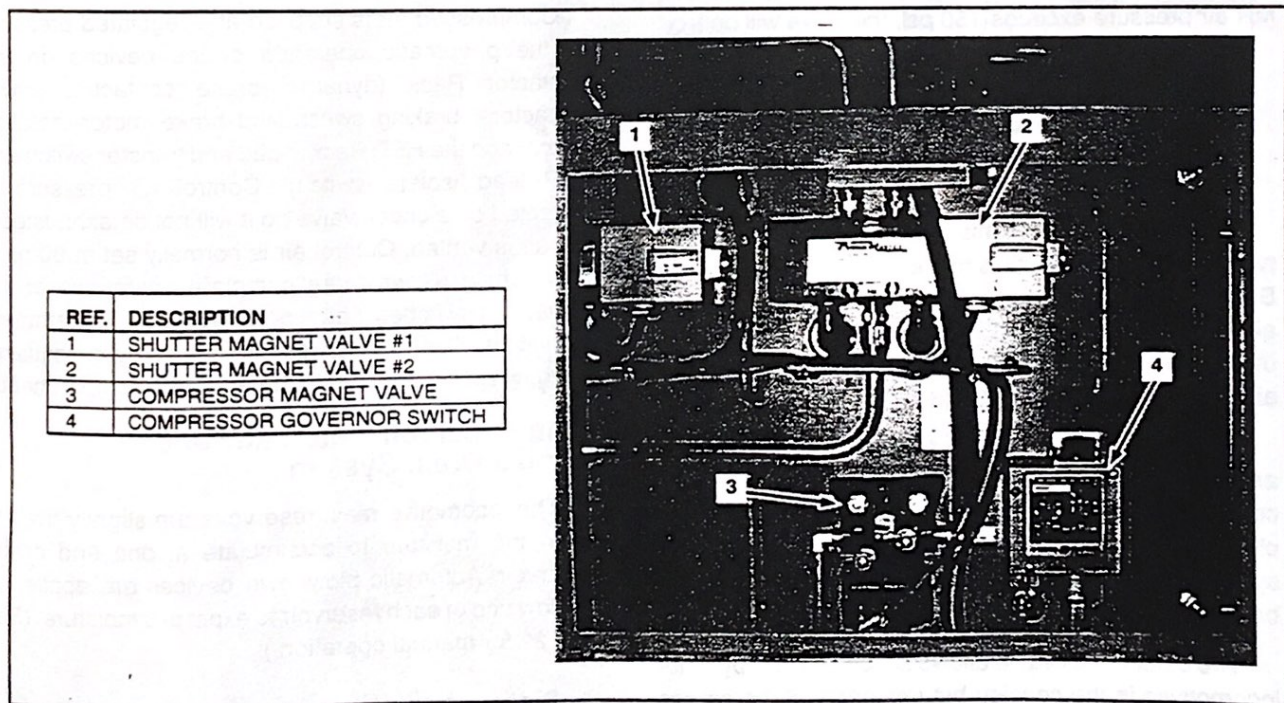

FIG. 20. AIR COMPRESSOR CONTROL PANEL. E-42778.
This locomotive uses an air compressor driven by an electric motor. Motor speed and compressor loading are controlled by the EXC Controller. The Compressor Governor Switch (CGS), located on the compressor control panel (Item 4, Fig. 20), monitors main reservoir pressure and provides a pressure signal to EXC. EXC, in turn, energizes the compressor drive contactor to start the air compressor drive motor. After two seconds, EXC de-energizes the Compressor Magnet Valve (CMV) to load the compressor (Item 3, Fig. 20). Speed of the air compressor drive motor is also monitored. If EXC has commanded the drive motor to start, but motor speed is not within limits, a **FAULT** will be logged, and the **SUMMARY** message "WARNING! Air Compressor Does Not Pump" will be displayed. (See **TROUBLESHOOTING** section.)
leaving the Compressor Magnet Valve (Item 3, Fig. 20) unlatched. When the governor test fitting is removed, the line to the Compressor Governor Switch (Item 4, Fig. 20) is exhausted. This sends a "load" signal to the EXC, which in turn causes the motor to start, and two (2) seconds later, the CMV to de-energize (exhausting air) to load the compressor.
The air compressor can be manually unloaded by removing the governor test fitting and latching the Compressor Magnet Valve (Item 3, Fig. 20).